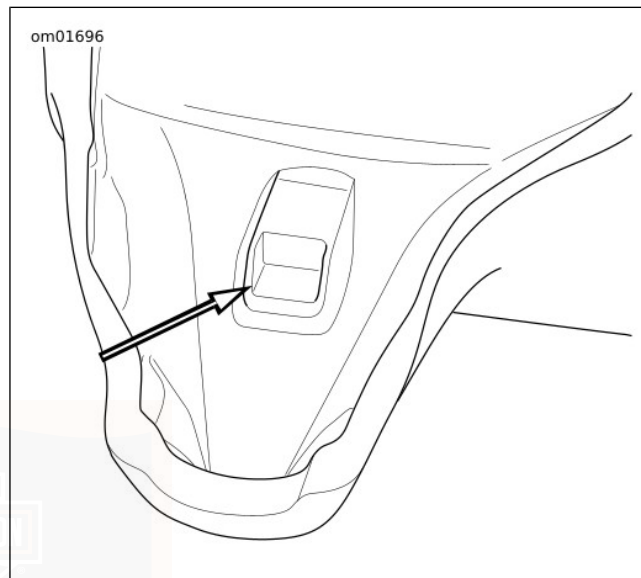

Figure 86. Seat Mounting Slot
1. See Figure 86. Place seat on frame backbone.